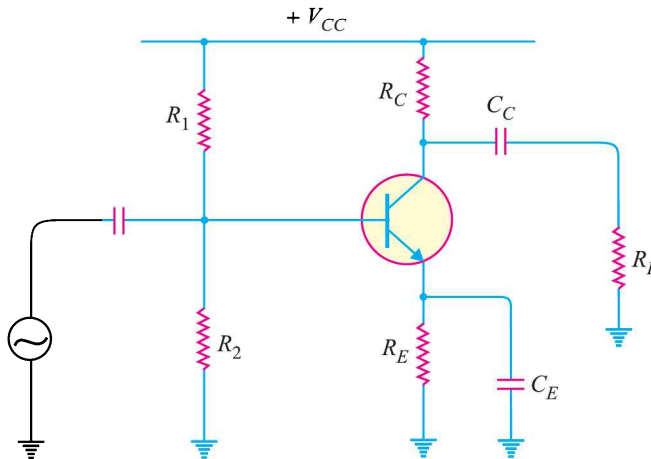

Fig. 10.46
- Fig. 10.46 shows the transistor amplifier. If $R_C = 4 \text{ k}\Omega$, $R_E = 5 \text{ k}\Omega$ and $V_{CC} = 30 \text{ V}$, draw the d.c. load line.
- Find the operating point for Fig. 10.46, $V_{CC} = 30 \text{ V}$, $R_1 = 20 \text{ k}\Omega$, $R_2 = 20 \text{ k}\Omega$, $R_C = 4 \text{ k}\Omega$, $R_E = 5 \text{ k}\Omega$. **[13.2V, 1.85mA]**
- For the circuit shown in Fig. 10.46, find the voltage gain if $\beta = 100$, $R_C = 3 \text{ k}\Omega$, $R_L = 6 \text{ k}\Omega$ and $R_{in} = 2 \text{ k}\Omega$. **[100]**
- In the circuit shown in Fig. 10.46, $V_{CC} = 30 \text{ V}$, $R_1 = 2 \text{ k}\Omega$, $R_2 = 1 \text{ k}\Omega$, $R_C = 2 \text{ k}\Omega$, $R_L = 2 \text{ k}\Omega$, $R_E = 1 \text{ k}\Omega$. Draw the d.c. and a.c. load lines.